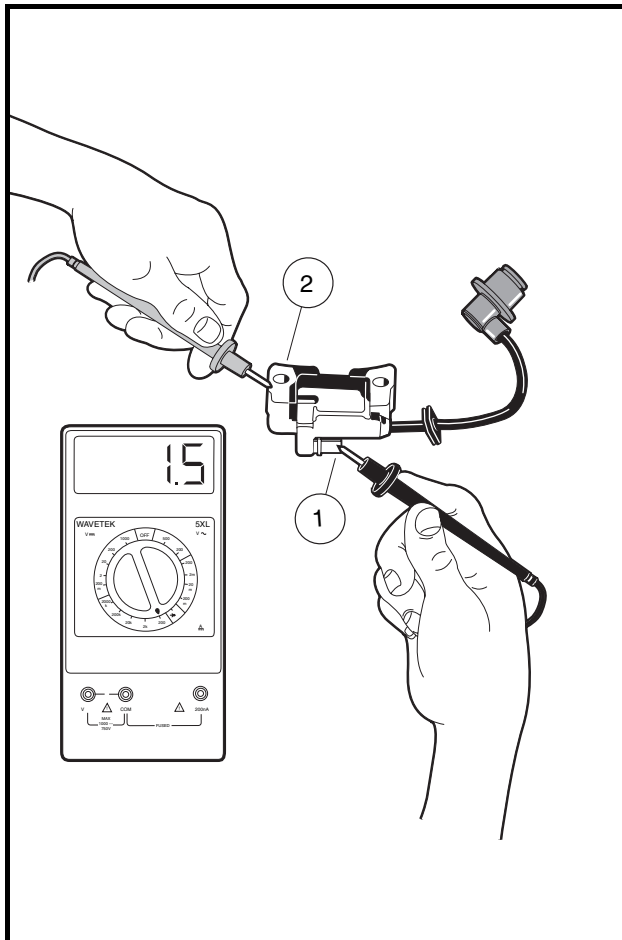

Figure 11-31 Primary Coil Resistance – Bench Test
- 2.1. Place the black (–) probe of the meter on the terminal on the ignition coil (1), and place the red (+) probe on the core (2) (**Figure 11-31, Page 11-29**).